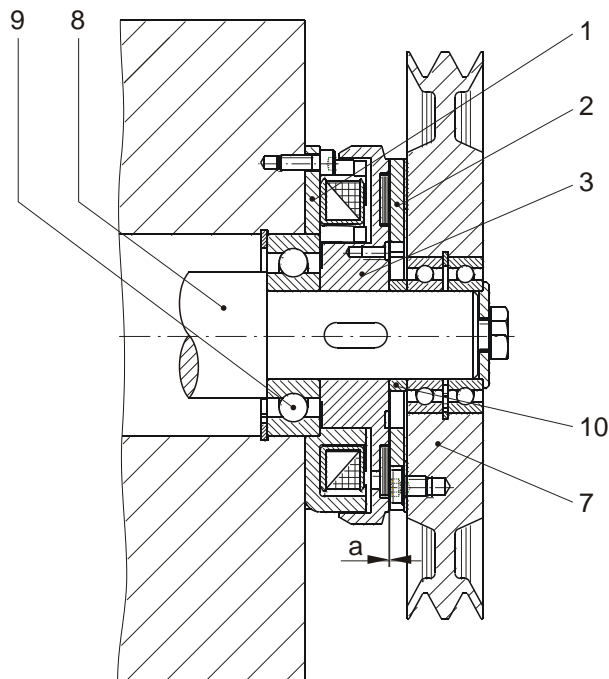

Fig. 3
## Installation Example 1 (Fig. 3)
- Centred by a ball bearing (9), Figs. 3/4.
- The rotor (3) must be kept grease-free.
The rotor (3) must be secured axially in operation, see Installation Examples Figs. 3 and 4.
- 4.1. Adjust the air gap "a" according to Table 1 and Figs. 3/4.
- 4.2. Secure the mounting part or flange hub (6) axially backlash-free.
Axial backlash changes the air gap "a" and can lead to the rotor (3) rubbing against the armature disk (2) (see Installation Examples Figs. 3 and 4).